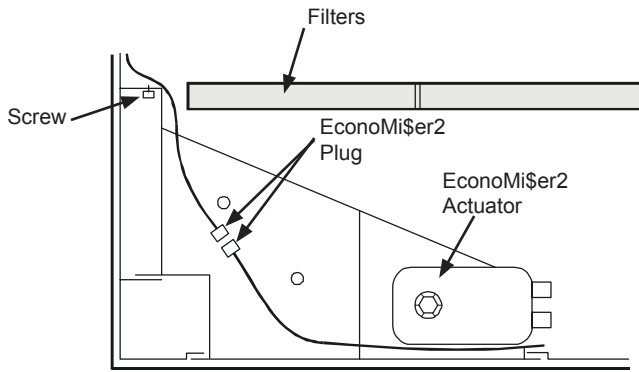

Fig. 7 - Top View of EconoMiSer2 Installed in Unit
9. Install a screw through the pre-punched hole in the EconoMiSer2 into the flange on the horizontal duct opening. (See Fig. 7.)